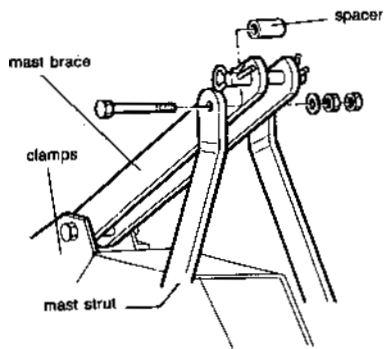

Fig. 3
- 3 Attach mast braces to mast struts using a M12x90mm bolt, spacer, nut and jam nut. Fig. 3.